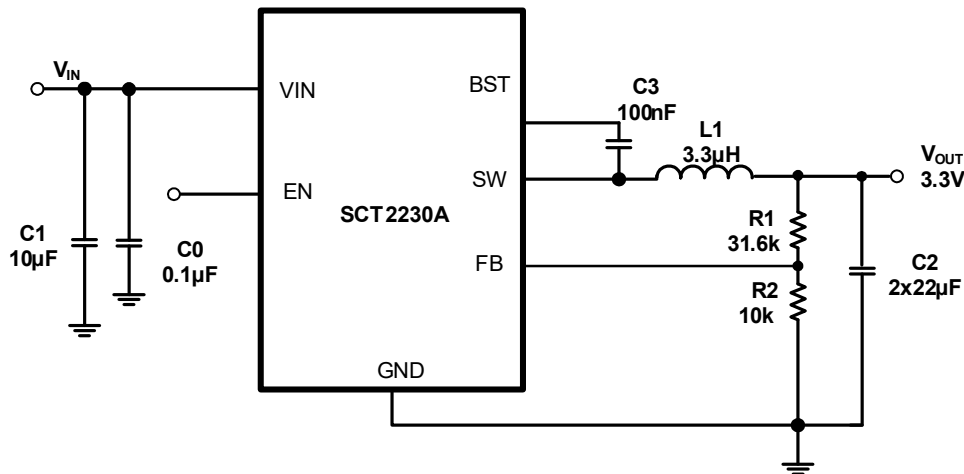

Figure 8. 12V Input, 3.3V/3A Output
The SCT2230A features external programmable output voltage by using a resistor divider network R1 and R2 as shown in the typical application circuit Figure 8. Use equation (8) to calculate the resistor divider values.